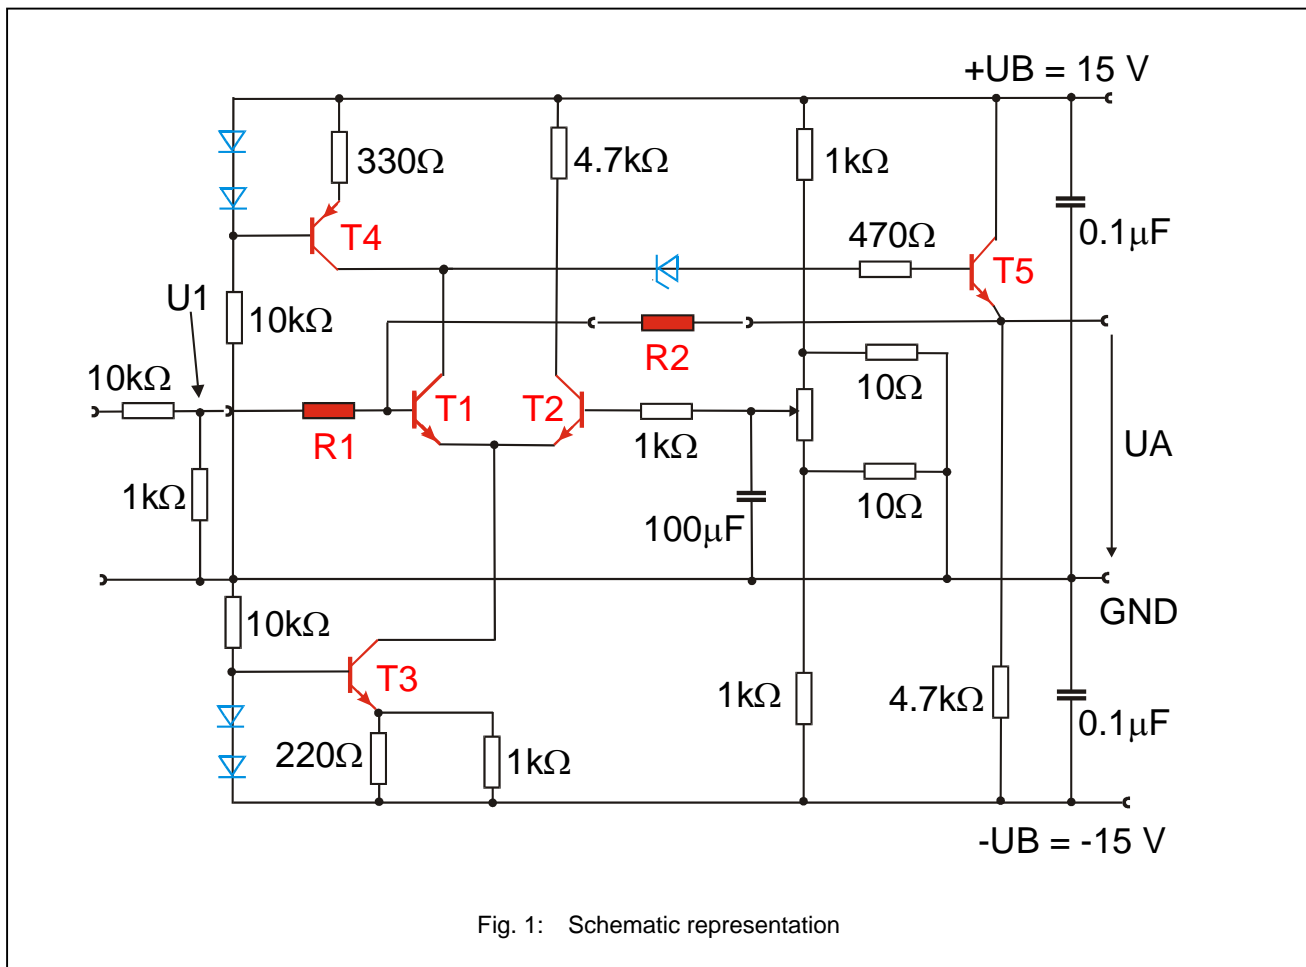
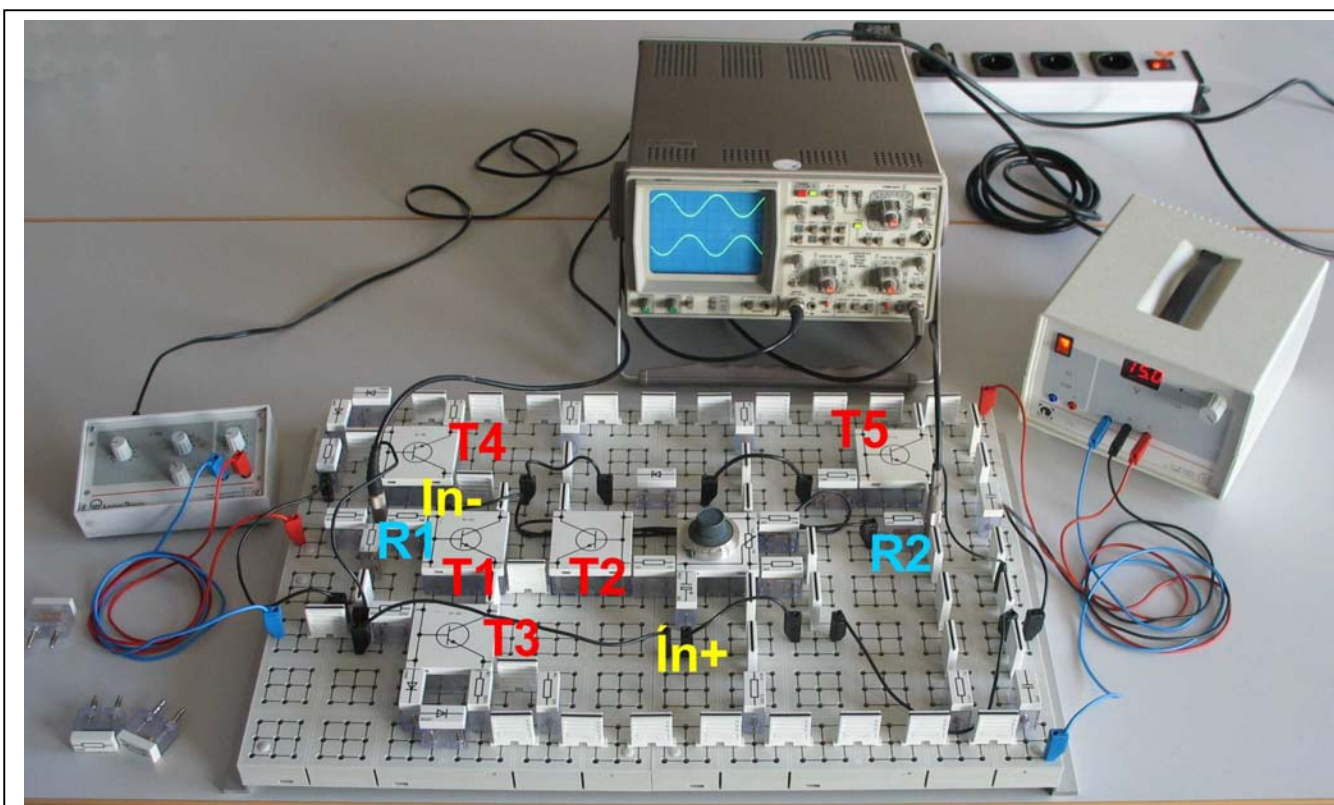
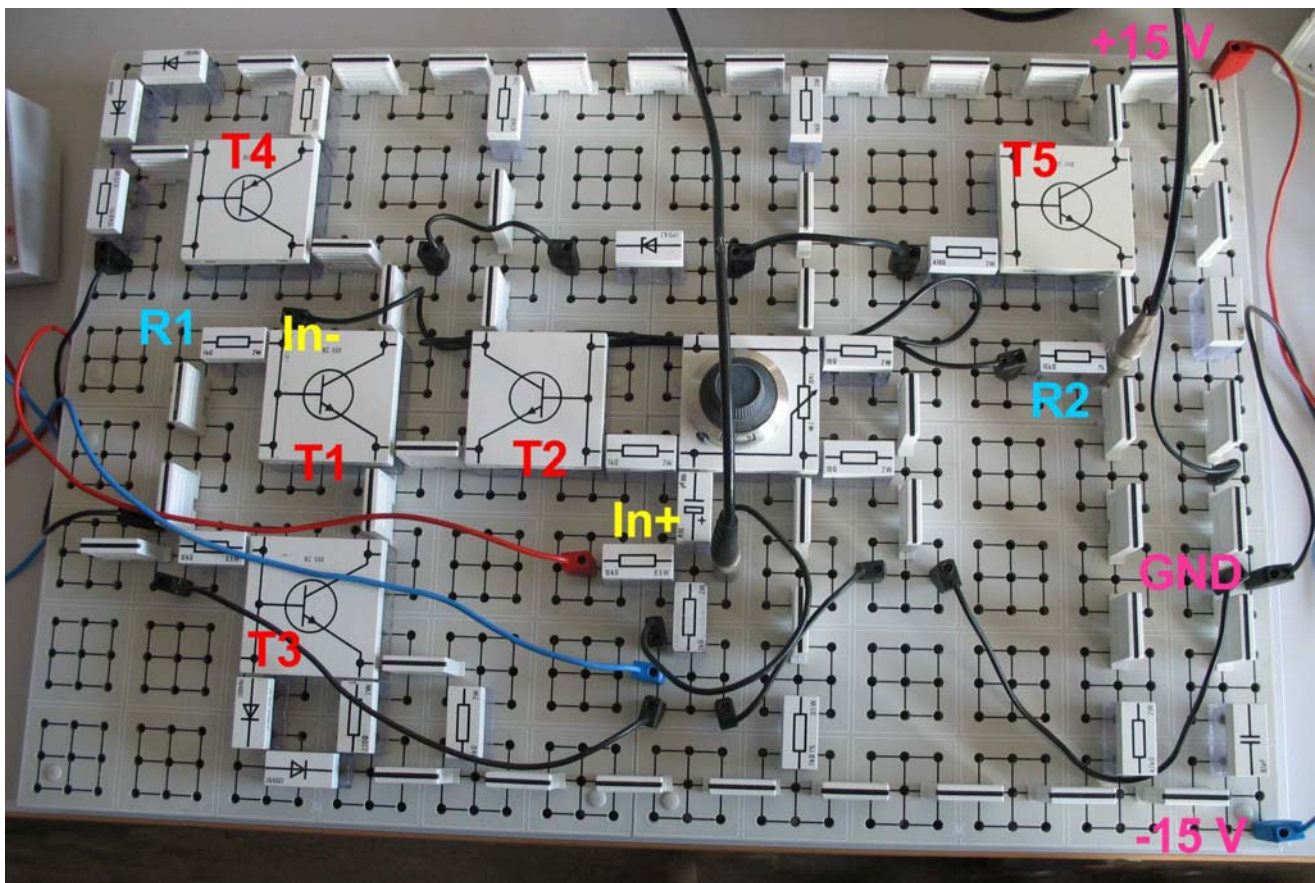

Fig. 1: Schematic representation
Fig. 2: Experimental setup of the operational amplifier for the inverting case (for wiring diagram see Fig. 1).
Fig. 3: Experimental setup of the operational amplifier for the non-inverting case (compare Fig. 2 for the setup of the inverting case).
The circuit of the setup is shown in Fig 1, R1 and R2 set the total gain as already discussed. The remainder is the Operational amplifier circuit, trying to have infinite gain.
The wiring diagram of the operational amplifier for the inverting operation is shown in Fig. 1 schematically. The corresponding experimental setup is shown in Fig. 2.
Both types of operational amplifiers can be set up. The changes to be made for the non-inverting case are shown in Fig. 3.
Apply a voltage U_B of +15 V to the circuit as shown in Fig. 2. Set the of the function generator settings as: frequency approx. $f \sim 1$ kHz, wave form: sine signal, amplitude: ~ 1 V.
- Change the operational amplifier circuit of the inverting setup to the non-inverting case as shown in Fig. 3.
Table 3 and table 4 compare the measured voltage amplification with the theoretical values according equation (I) or (II). Depending on the experimental setup of the operational amplifier (i.e. Fig. 2 or Fig. 3) the input signal is amplified according to the used resistor combination. As can be seen from Fig. 4 and Fig. 5 the input signal is either in-phase or inverted with the output signal both for the inverting and the non-inverting setup.